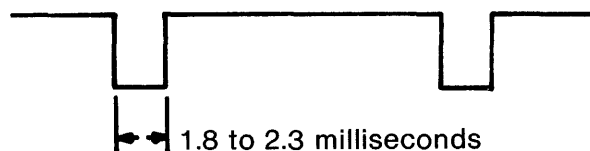

Figure 2-7
- B. Ensure that the negative going pulse width is between 1.0 and 2.3 milliseconds (see Figure 2-7).